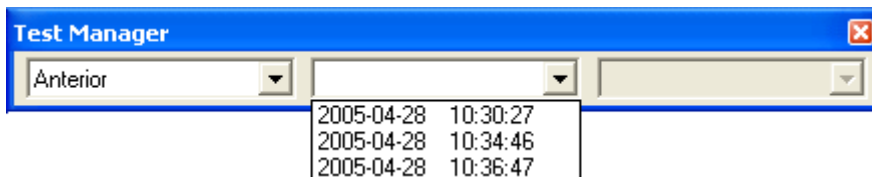

Fig. 12. *Test manager* with the pulled out list *Main test date*
3. Select the item for the test you want to review on the list *Test type*. Then, the list *Main test date* (⇒ Fig. 12) will be pulled out. For main and subordinate tests see chapter 6.